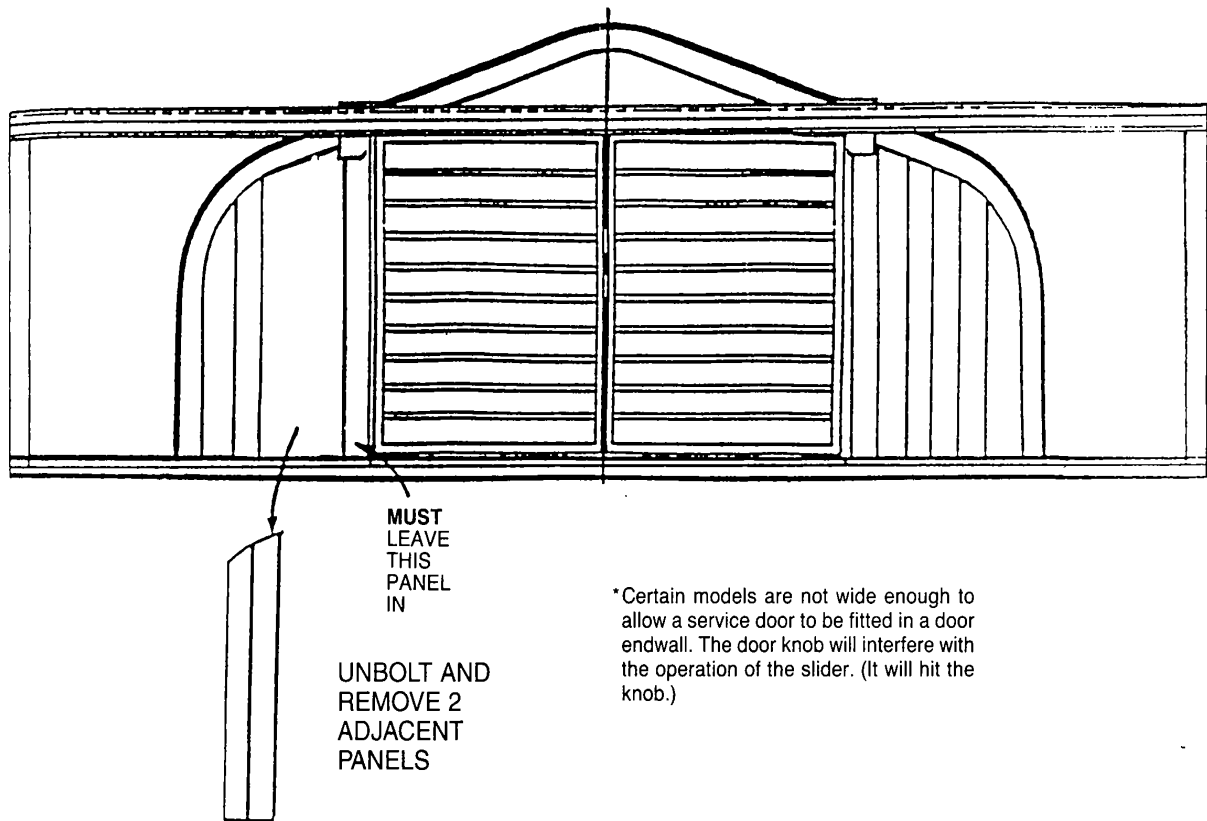

Figure 6-1A
Unbolt and remove two (2) adjacent endwall panels as shown in *Figure 6-1A*.